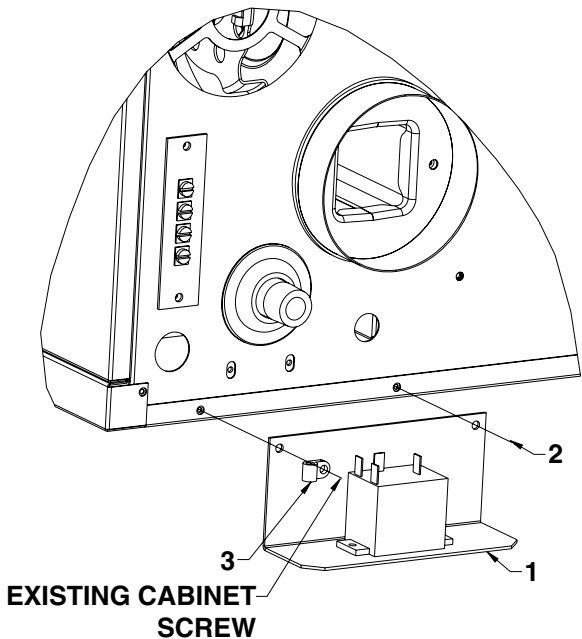

Figure 19. Relay Kit (Refer to Table 32)
- There are two relay kit options (see Figure 19), one for controlling two heaters (same as option CL31) and one for controlling up to six heaters (same as option CL32). Refer to Table 32 for relay kit components.
- The cable clamp (item 3) and relay bracket assembly (item 1) are secured using an existing cabinet screw. The other end of the relay bracket assembly is secured using the screw (item 2) from the kit.